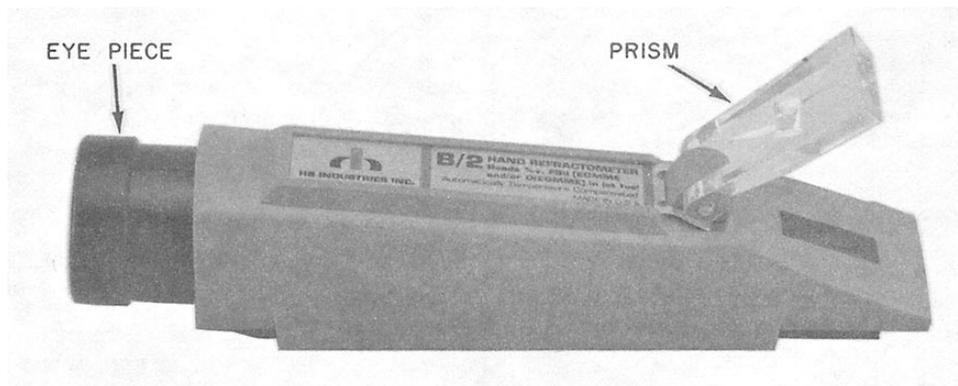

Figure 3-11.—Refractometer (top view).
The name refractometer tells you how it works. By the prism on the front (fig. 3-11), light is refracted through the sample being tested onto the scale inside the refractometer.
8. Open the hinged plastic cover of the refractometer's window (fig. 3-11), make sure the window and cover are clean, and place several drops of water on it. Close the cover and look through the eyepiece. Observe the shadow line. Remove the black plastic rod from the bottom of the refractometer. Using the rod, adjust the setscrew (on the bottom of the refractometer) until the shadow line meets the zero line of the scale. See figures 3-12 and 3-13. By adjusting the set screw